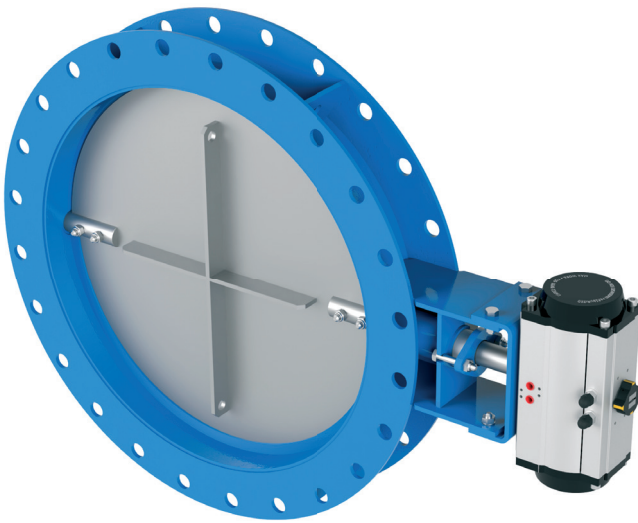

Fig. 6
- ¼ turn pneumatic actuator. These are the most common in this type of damper butterfly valve (fig. 6), and are mounted directly on the actuator shaft.